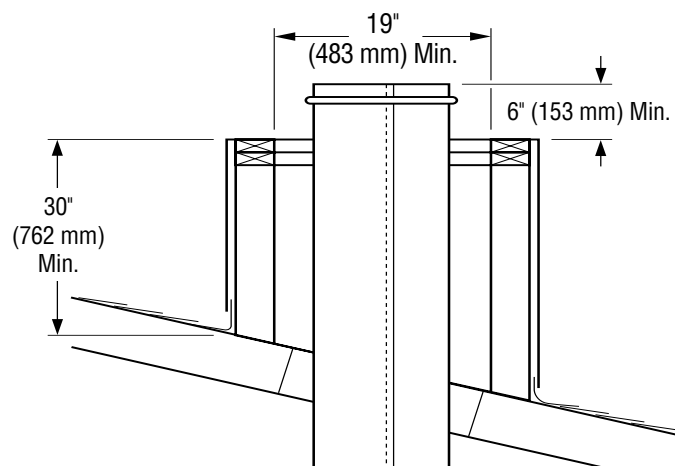

Figure 25 - Constructing Chase
- Construct chase as illustrated in Figure 25. **Note:** The shortest vertical side must be at least 30" high and the minimum inside dimension must be at least 19" as shown in Figure 25.
- Add pipe sections to chimney system as outlined in fireplace installation instructions until the last piece of chimney is a minimum of 6" above chase top (see Figure 25).